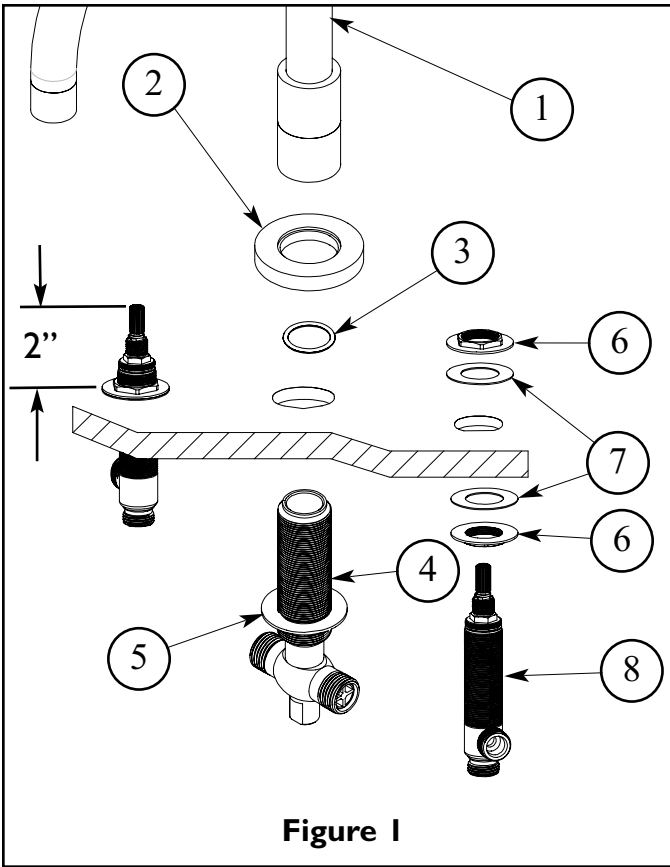

Figure 1
1. Thread flange NUT (5) onto the diverter SHANK (4). Install from underside through center hole of mounting surface. Place spout base RING (2) with WASHER (3) over SHANK (4). Thread SPOUT (1) onto end of SHANK (4). Secure into place with flange NUT (5). See Figure 1.
2. Place NUT (6) & WASHER (7) on valve BODY (8). Insert BODY (8), (blue cold and red hot), through hole in the mounting surface. Adjust and secure with additional WASHER (7) and NUT (6) so that the top of valve is 2" above mounting surface. Before tightening down flange NUT (6), check HANDLE (21, 21a) alignment by placing onto Valve (8). Any adjustments for rotational alignment must be made to the valve BODY (8), not to the cartridge. See Figure 1.